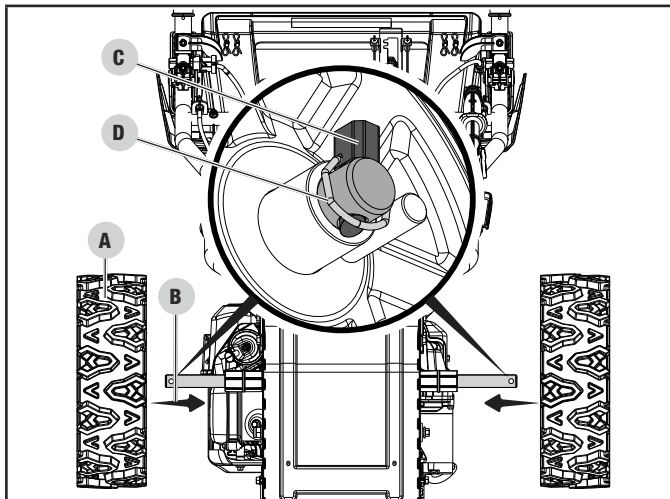

Figure 5
Apply anti-seize grease onto the wheel axle. Apply anti-seize grease into the inside diameter of the wheel hub. Slide the wheel (A) onto axle (B). Place axle pin (C) into the axle. Once inserted, fold ring (D) around axle to hold in place (Fig. 5).